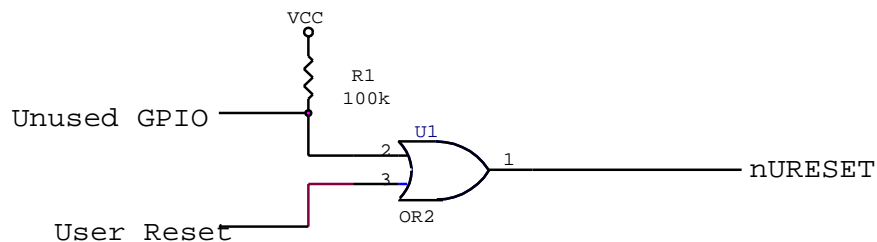

Figure 2. Example Circuit for Keeping nRESET Inactive during Prescribed Period
- Figure 2. Example Circuit for Keeping nURESET Inactive during Prescribed Period 7
Implement a circuit that keeps nRESET inactive during the prescribed period of time. (The period of time between when the WAKEUP signal becomes active and the EP72/73XX device completely enters the Operating State.) A very simple circuit will fulfill this requirement. See Figure 2.